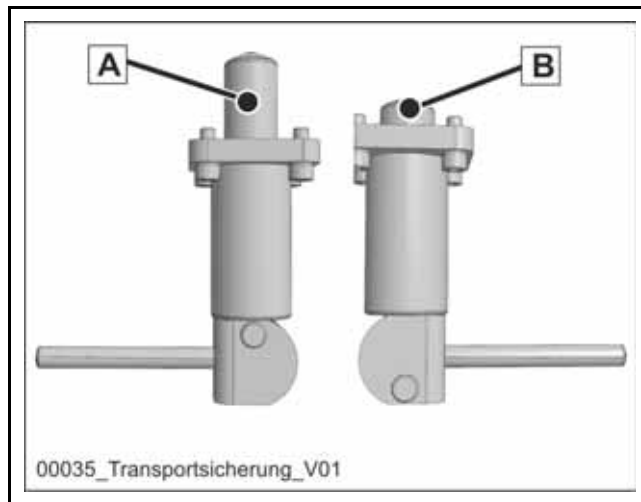

Fig. 531 "A" = secured / "B" = unlocked
- Loosen the transport safety devices on both spline ends, example (1) (**Fig. 530**), (**Fig. 531**).